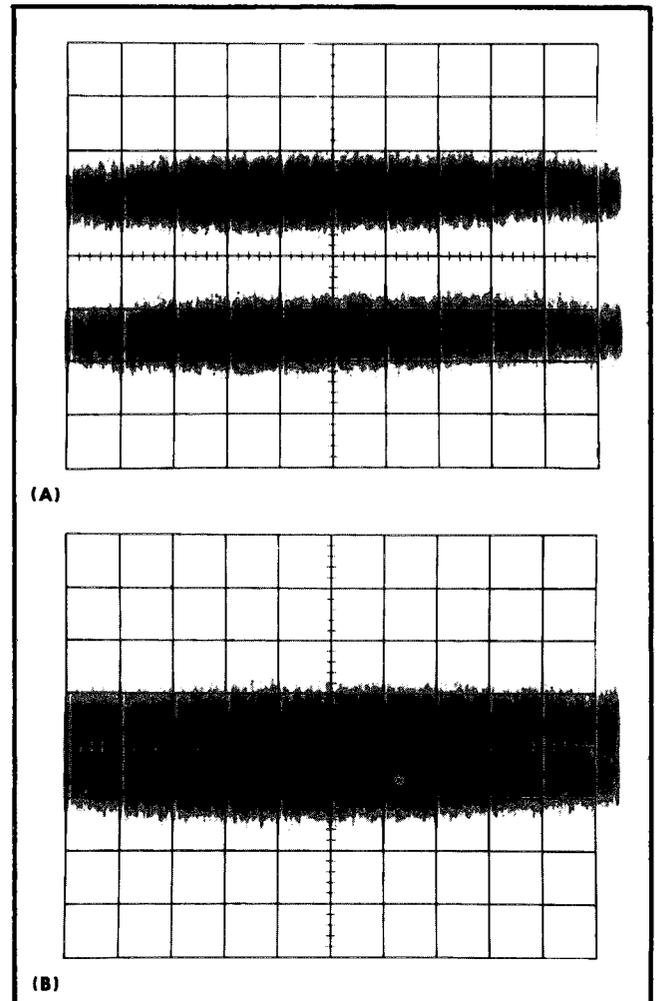

Fig. 5-10. Typical display showing (A) two noise bands and (B) merging noise bands,
- h. Turn the Variable Attenuator counterclockwise until the darker band between the two noise bands just disappears (see Fig. 5-10).